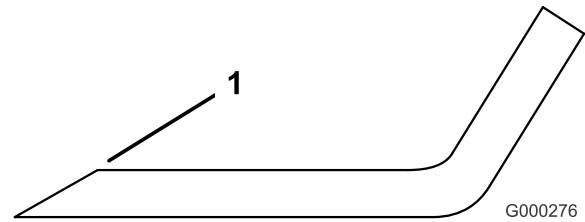

Figure 86
3. Examine the cutting edges of all of the blades. Sharpen the cutting edges if they are dull or nicked. Sharpen only the top of the cutting edge and maintain the original cutting angle to make sure of sharpness (Figure 86). The blade will remain balanced if the same amount of metal is removed from both cutting edges.